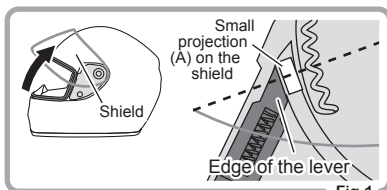

Fig.1
- ① Open the shield as far as it goes and then align the small projected part (A) and the edge of the lever as indicated Fig.1.
- ① Insert the projection B into the space on the shield ratchet as shown in Fig.1. and Fig.2. Place the notch area of the shield on the ratchet and then align the small projection A and the edge of the lever as indicated in Fig.3.